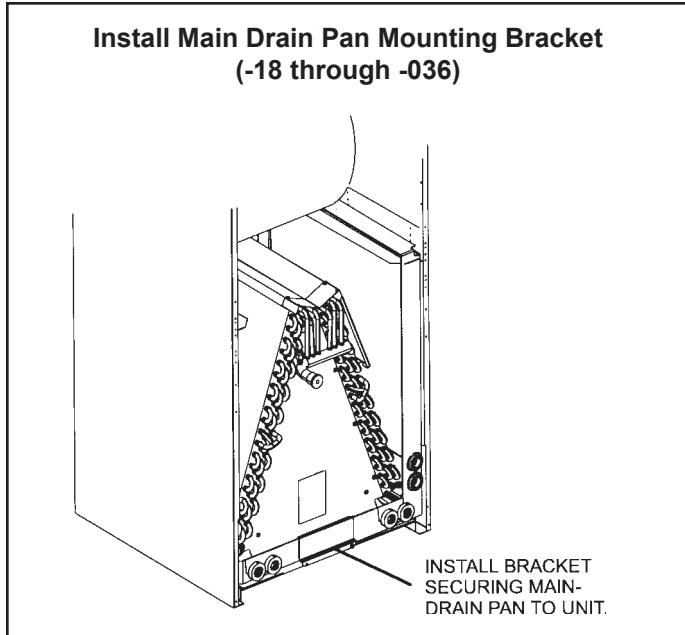

**Figure 4**
2. Remove braket(s) securing pan(s) to unit as illustrated in Figures 4 and 5.